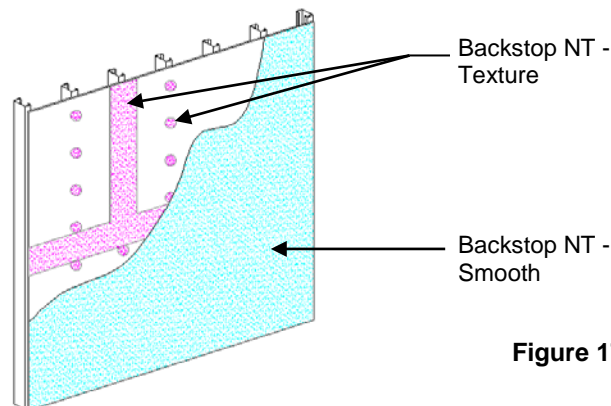

Figure 17
- a. General: Dryvit Backstop NT – Smooth can be applied using a roller or sprayed and back-rolled over the acceptable sheathing substrates. **NOTE: OSB sheathing requires that joints and fasteners be treated with Backstop NT – Texture. A minimum of two (2) coats of Backstop NT – Smooth or Backstop NT – Spray are required for the field of the wall. Backstop NT – Texture is not recommended for application in the field of the board.**
- 2) Backstop NT – Smooth material should be applied in a uniform, continuous film at the recommended coverage rate – Figure 17. **NOTE: Sheathing substrates with a surface texture or high porosity will require additional material.**